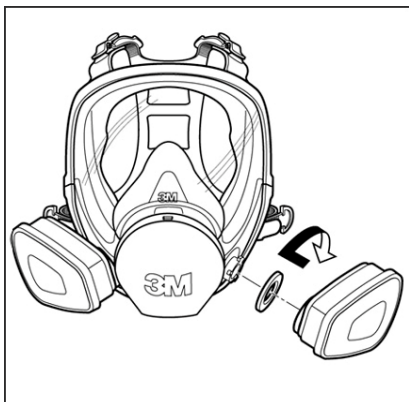

Fig. 1
3. Repeat with second cartridge. (Fig. 1)